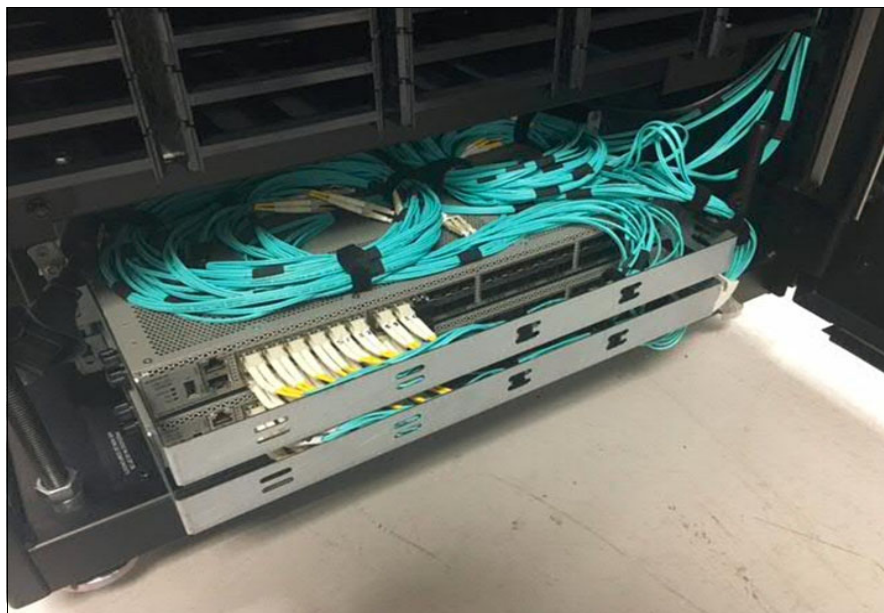

Figure 1-13 Integrated TS7700 back-end switches
To provide this support, the TS4500 must have two integrated 16 Gb Fibre Channel (FC) switches, which are installed in the bottom of a L25 or D25 frame, as shown in Figure 1-13. The TS4500 management graphical user interface (GUI) supports the preset TS7700 logical library, and supports the use of an external TSSC/IMC.